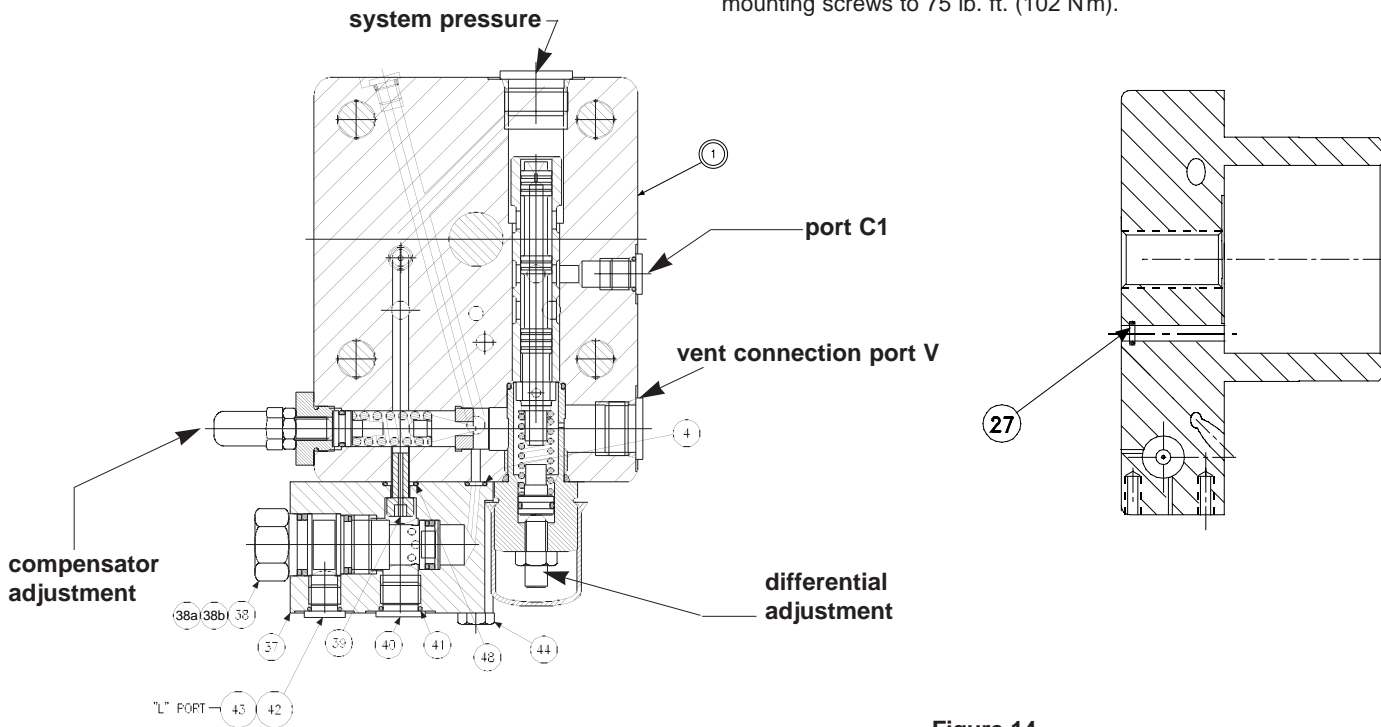
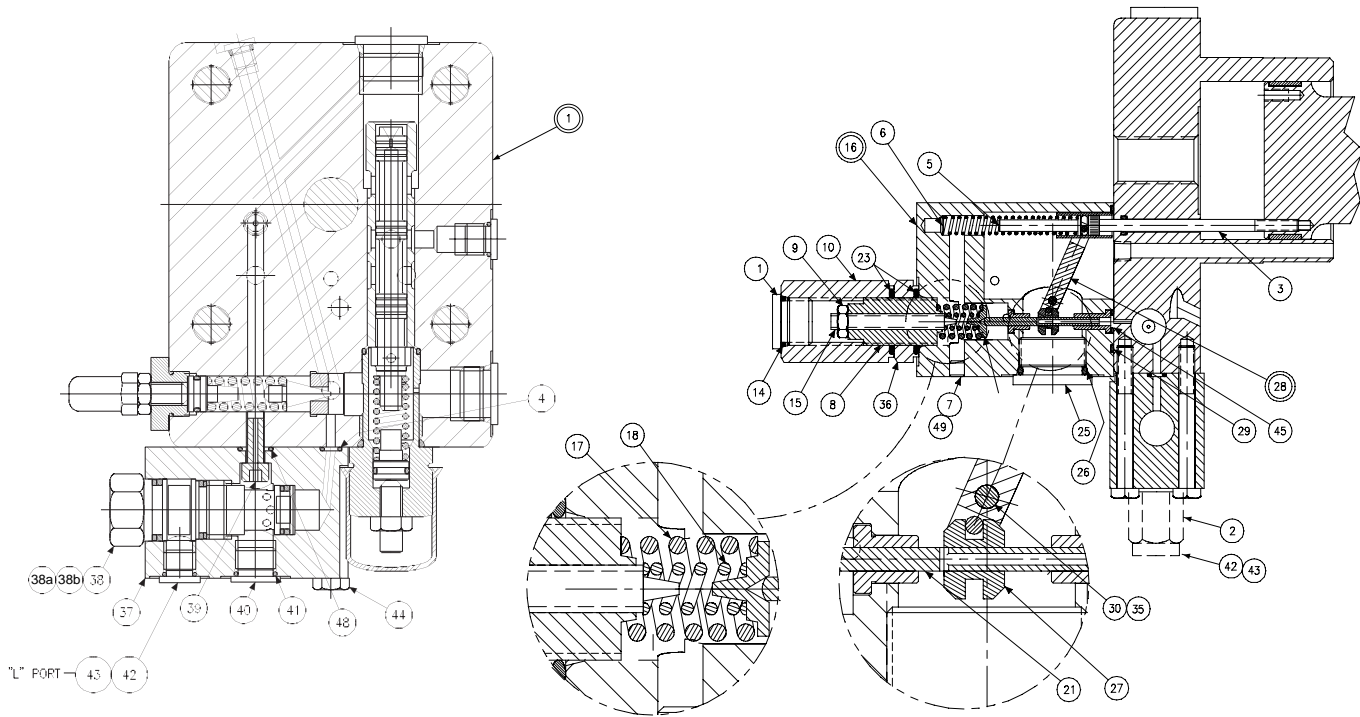

Figure 14
FIGURE 13
1. See Figure 13. Remove 2 screws holding torque limiter body (16) to cap assembly (1).
2. Remove all parts from torque limiter body (16) except pin (30) and arm assembly (28). It is not necessary to remove these parts unless broken or worn. Examine parts for wear or damage.
3. Remove screw (3). Examine head for excessive wear, and body for smooth sealing surface with O-ring.
5. Remove modulating valve (38) from body (37). Remove body (37) from cap assembly (1) Note plug (40) must be removed to remove special screw (39). Remove cap assembly (1).
1. See Figure 14. Remove plug (15) and attached parts. Remove spring (11) and spool (18).
2. Remove adjusting plug (2) and attached parts. Remove seal piston (5). Note: a 10-24 screw may be used to assist in pulling the piston. Remove spring (7) and cone (8).
3. Do not remove sleeve in body (1). Sleeve is pressed into cap and finished to size. If sleeve or cap is worn, replace the cap-sleeve assembly (1).
4. Examine seat (10) for wear. Do not remove unless damaged.
1. See Figure 14. Install plug (9) and o-ring (30) and orifice (19) in body.
2. Press seat (10) into bore squarely against shoulder in bore.
3. Install plug (12) and spool (18) into bore as shown. Install spring (11) over end of spool. Install O-ring (31) on stop (16). Lubricate and install into plug (15). Install plug (15) into cap. Install adjustment plug (32), screw (3), nut (4) and cover (17).
4. Install O-ring (6) on seal piston (5).
5. Lubricate O-ring and install cone (8), spring (7) and seal piston into bore in cap (1), being careful that cone enters seat (10). Install remaining parts in body (1)
8. See Figure 13. Install block (37) on cap (1) with O-rings (4) and (48). Use special screw (39) through the block.
9. Install O-rings (38a and 38b) on valve (38). Observe that backup ring on inside groove is toward the outside, the one on the middle groove is toward the inside, and the one on the outside groove is toward the outside. Lubricate and install valve (38) in block (37), being careful to avoid damaging the O-rings. Torque to 50 lb. ft. (67,8 Nm).
10. For the P200 only, install O-ring (43) on adapter (2). Install adapter in block (37). For the P12 only, install O-ring (43) on plug (42). Install plug (42) in block (37).
11. Apply thread locking compound on threads of screw (3), lubricate the shank, thread through the cap into the control piston, and torque to 5 lb. ft. (6,8 Nm)
13. Press dowel (30) into body (16), through the link assembly (28), to 1/4 (6.35 mm) below surface. Apply hydraulic sealant to threads of screws (35) and install over dowel (30).
14. While sleeve (27) is engaged into dowel on link (28), slide spool (21) into bore of body (16), and through sleeve (27). Spool (21) must move freely and easily at all positions of the link (28).
15. Assemble remaining parts per drawing. While spring retainer is engaging clevis pin (5) under dowel of link (28), slide the other opening of spring retainer over the top of the screw (3). Attach body assembly (16) to cap (1), and torque mounting screws to 75 lb. ft. (102 Nm).
PARTS LIST FOR FIGURE 13
Ref. Figure 14
PARTS LIST FOR FIGURE 14